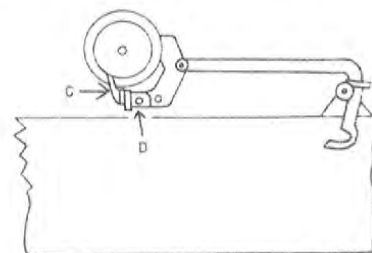

FIGURE 30B
- Place the trip arm in the reset position as shown in Figure 30B.
- Move the clutch pawl, C Figure 30B, as far forward as possible.
D. Adjust the movable leg of the knotter stop, D Figure 30B, until it is tight against the clutch pawl (horizontally).